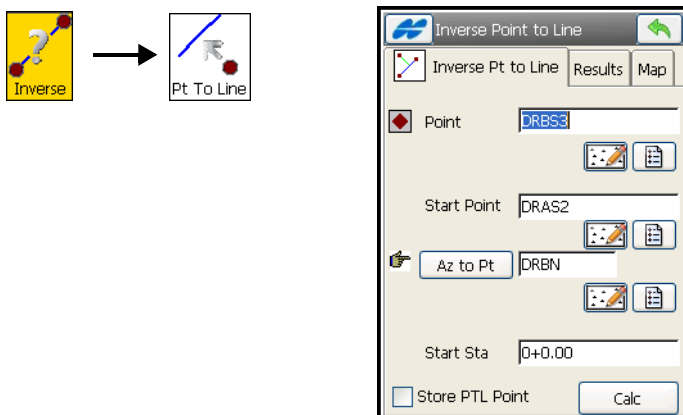

Figure 10-3. Inverse Point to Line.
1. On **Inverse Point to Line** screen (Figure 10-3), select the point name, and set the line by its start point, azimuth, and starting station (Figure 10-3).